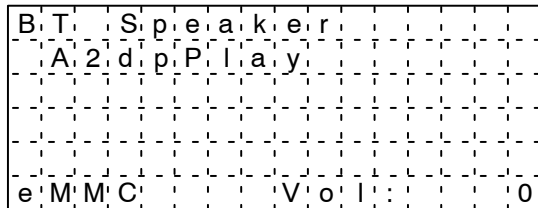

Figure 34. Display during BT Speaker A2DP Streaming
3. You can play A2DP streaming from your Bluetooth device. During the A2DP streaming, the characters of "A2dpPlay" will be displayed on LCD shown in Figure 34.